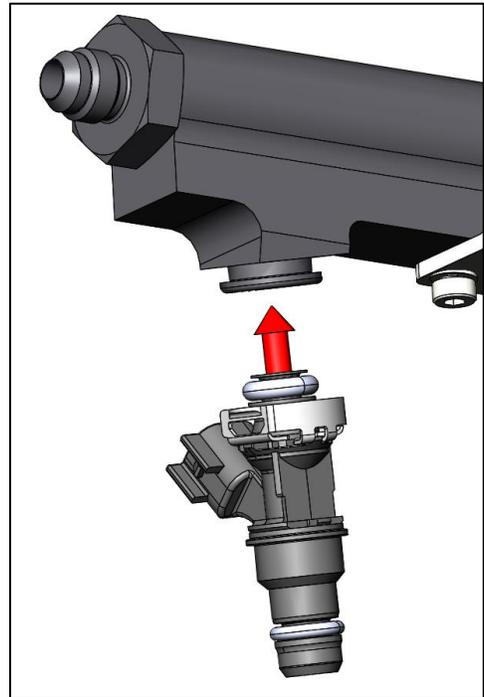

Figure 3
16. With the injector connector turned to the logo side of the fuel rail, firmly snap each injectors to the fuel rail bores (**Figure 3**).